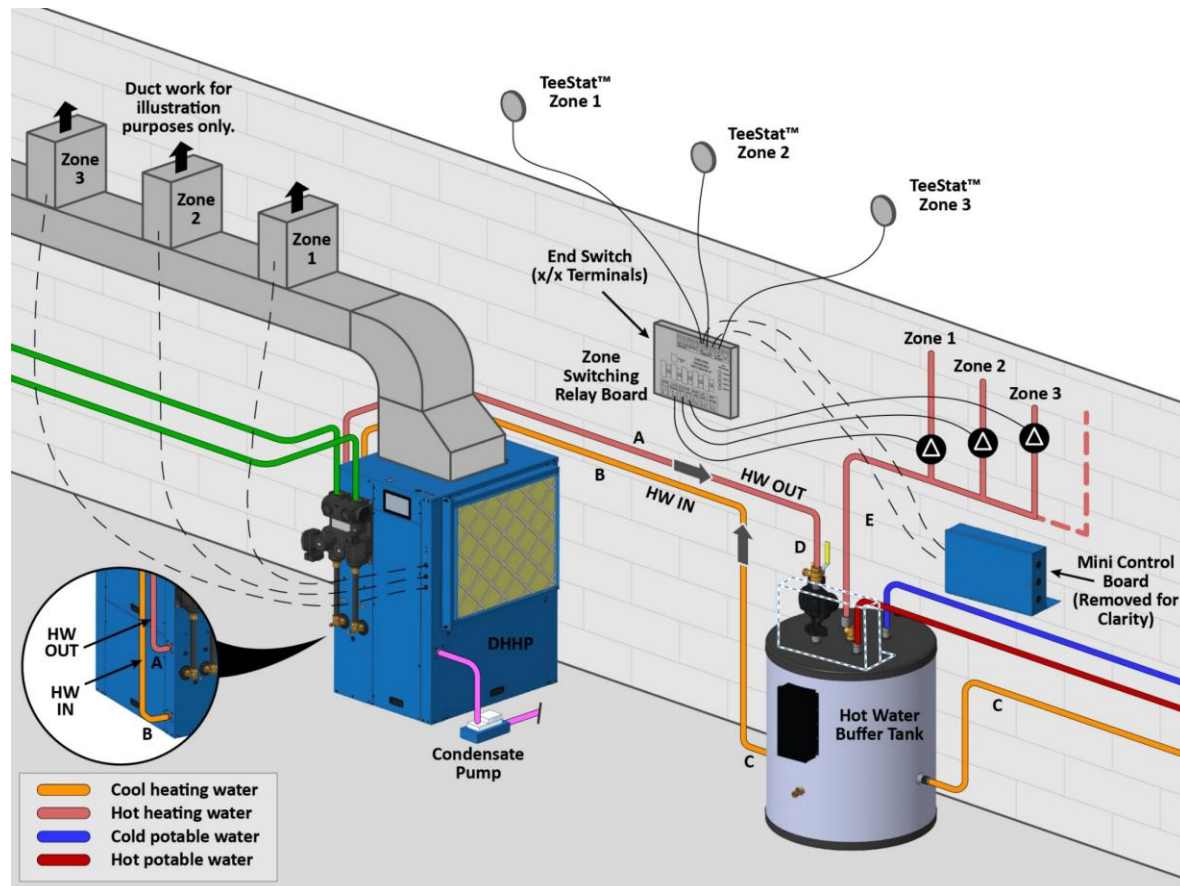
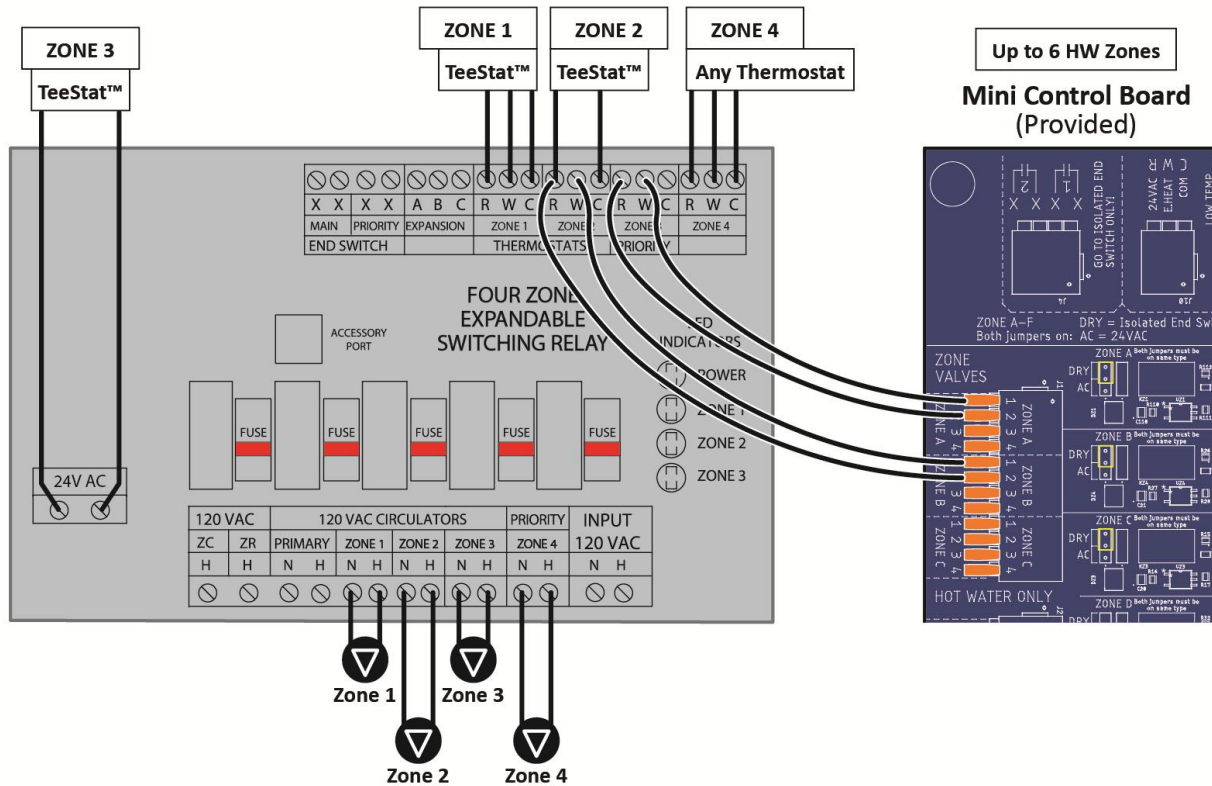

Figure 11: Multi-zone Hybrid configuration with zone pump circulators (makeup assembly not shown)
Figure 12: Wiring options for thermostats with zone switching relay board and mini control board
- If zoning with **circulators**, the load pump can be excluded as shown in Figure 11. (See the *Zoning with Circulators* section for more information.)
Figure 11 and Figure 12 represent an example of a multi-zone Hybrid configuration zoning with pump circulators.
The zone examples in Figure 12 are: